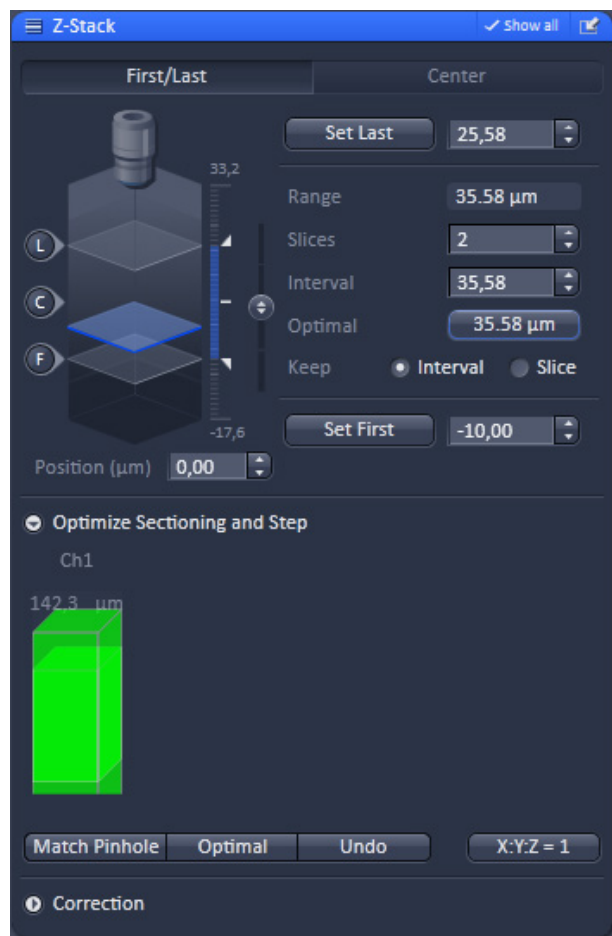

Fig. 146 Z-Stack tool
- The **Optimal** button of the **Z-Stack** tool in simultaneously displays the depth resolution corresponding to the pinhole diameter (see Fig. 146).